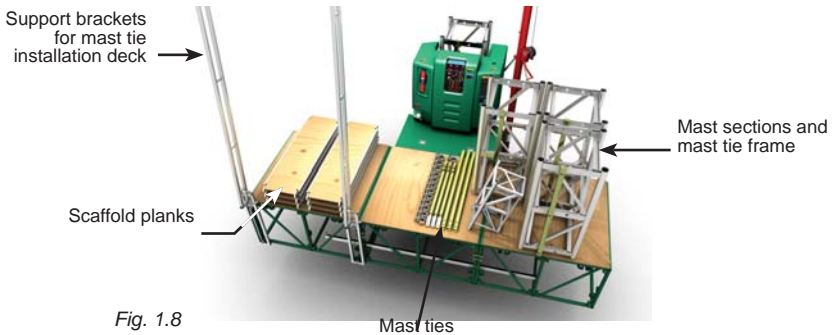

Fig. 1.8
- 24- Using the jib arm, crane or forklift load **three** mast sections, one mast tie frame, mast ties for one tie level and the optional scaffold planks on the platform. Place material as shown in fig. 1.8.